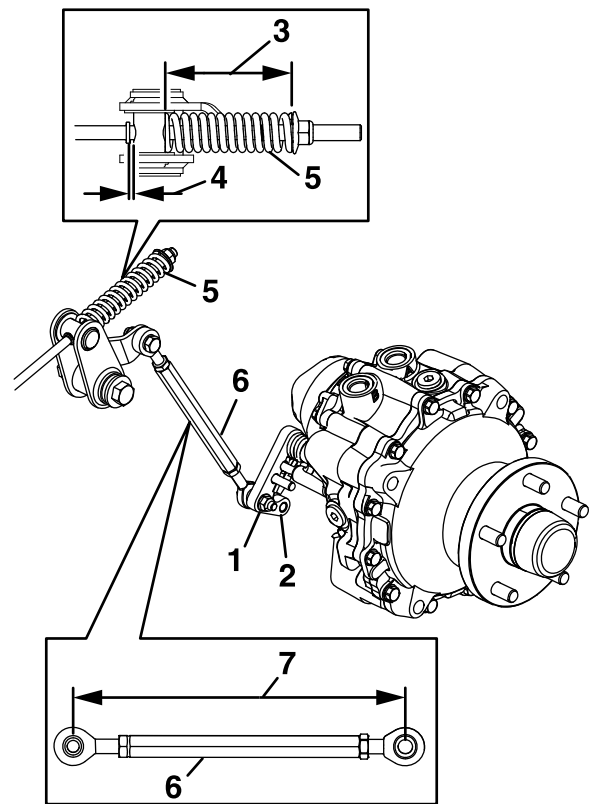

Figure 65
8. If the link assembly is attached (see Figure 65)